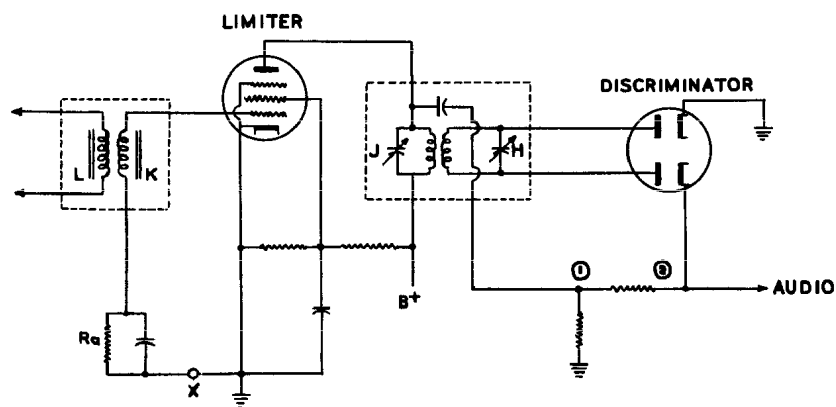

Figure 14
It is the standard practice to align the IF amplifier of an FM receiver (tuner) before aligning the RF and oscillator sections just as in AM receivers. However, the exact technique of alignment depends on whether a limiter discriminator or a ratio detector is used. Where a limiter and discriminator are used, usual practice is to align the IF section up to the input of the limiter first. Then align the discriminator as a separate step. When aligning the IF, RF and oscillator sections, the grid current of the limiter may be used as an output indicator. Although the voltage across a limiter grid resistor, measured with a VTVM, will serve in many cases, it is not an ideal indication. A typical limiter and discriminator stage is shown in Figure 14. Proper alignment technique for the complete FM receiver is as follows:
- (1) Connect an output indicator by (1) attaching a VTVM across the limiter grid resistor, or (2) breaking the circuit at the grid of the limiter and inserting a microammeter with a maximum range of around 150 microamps. If this method is used, be sure and bypass the meter with a .05  $\mu$ fd condenser to ground. See point X in Figure 14.
- (2) Connect a signal generator to the input of the mixer stage and turn on both the signal generator and the receiver. A sufficient warm-up time must be allowed to permit both the receiver and the generator to reach their normal operating temperature. In the case of FM receivers this is usually 15 to 20 minutes before complete stabilization can be obtained. Adjust the signal generator to the IF value of the set. This is usually 10.7 mc. The unmodulated RF output of the signal generator is used.
- (3) Peak all IF trimmers for maximum meter readings. If the IF is considerably out of alignment so that very little meter reading is obtained, it may be necessary to connect the signal generator to the last IF stage and align this portion of the circuit first. Then work back toward the mixer stage, rechecking previous IF adjustments at each point.
- (4) Connect a VTVM between point 1 and ground as shown in Figure 14. Adjust the trimmer or slug "J" for maximum reading using a low VTVM range.
- (5) Transfer the VTVM connection to point 2 and adjust trimmer "H" for a minimum voltmeter reading.
- (6) Transfer the signal generator lead to the antenna terminals and align the RF and oscillator trimmers, using essentially the same technique as is outlined for AM receiver adjustment, except the frequency settings will fall between 88 mc and 108 mc. The output indicator for this adjustment is the same as discussed in Step 1. Lastly, adjust the antenna trimmer for maximum indication or volume using the receiver's own antenna and at its permanent location.